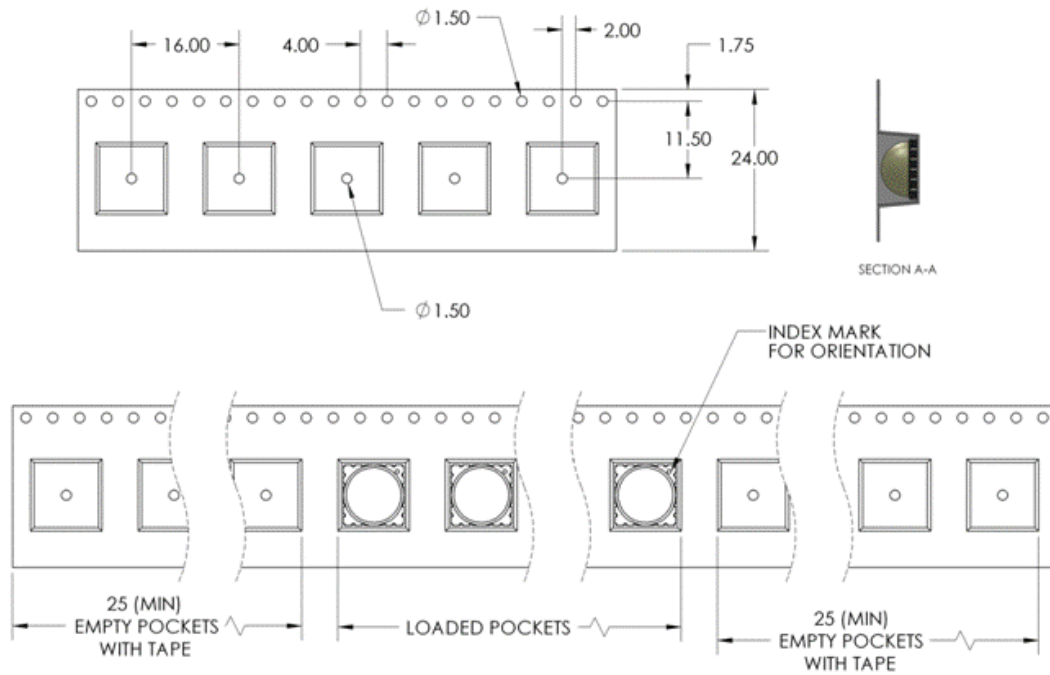

Figure 12: Emitter carrier tape specifications (mm).
- Maximum DC forward current is determined by the overall thermal resistance and ambient temperature. Follow the curves in Figure 12 for current derating.